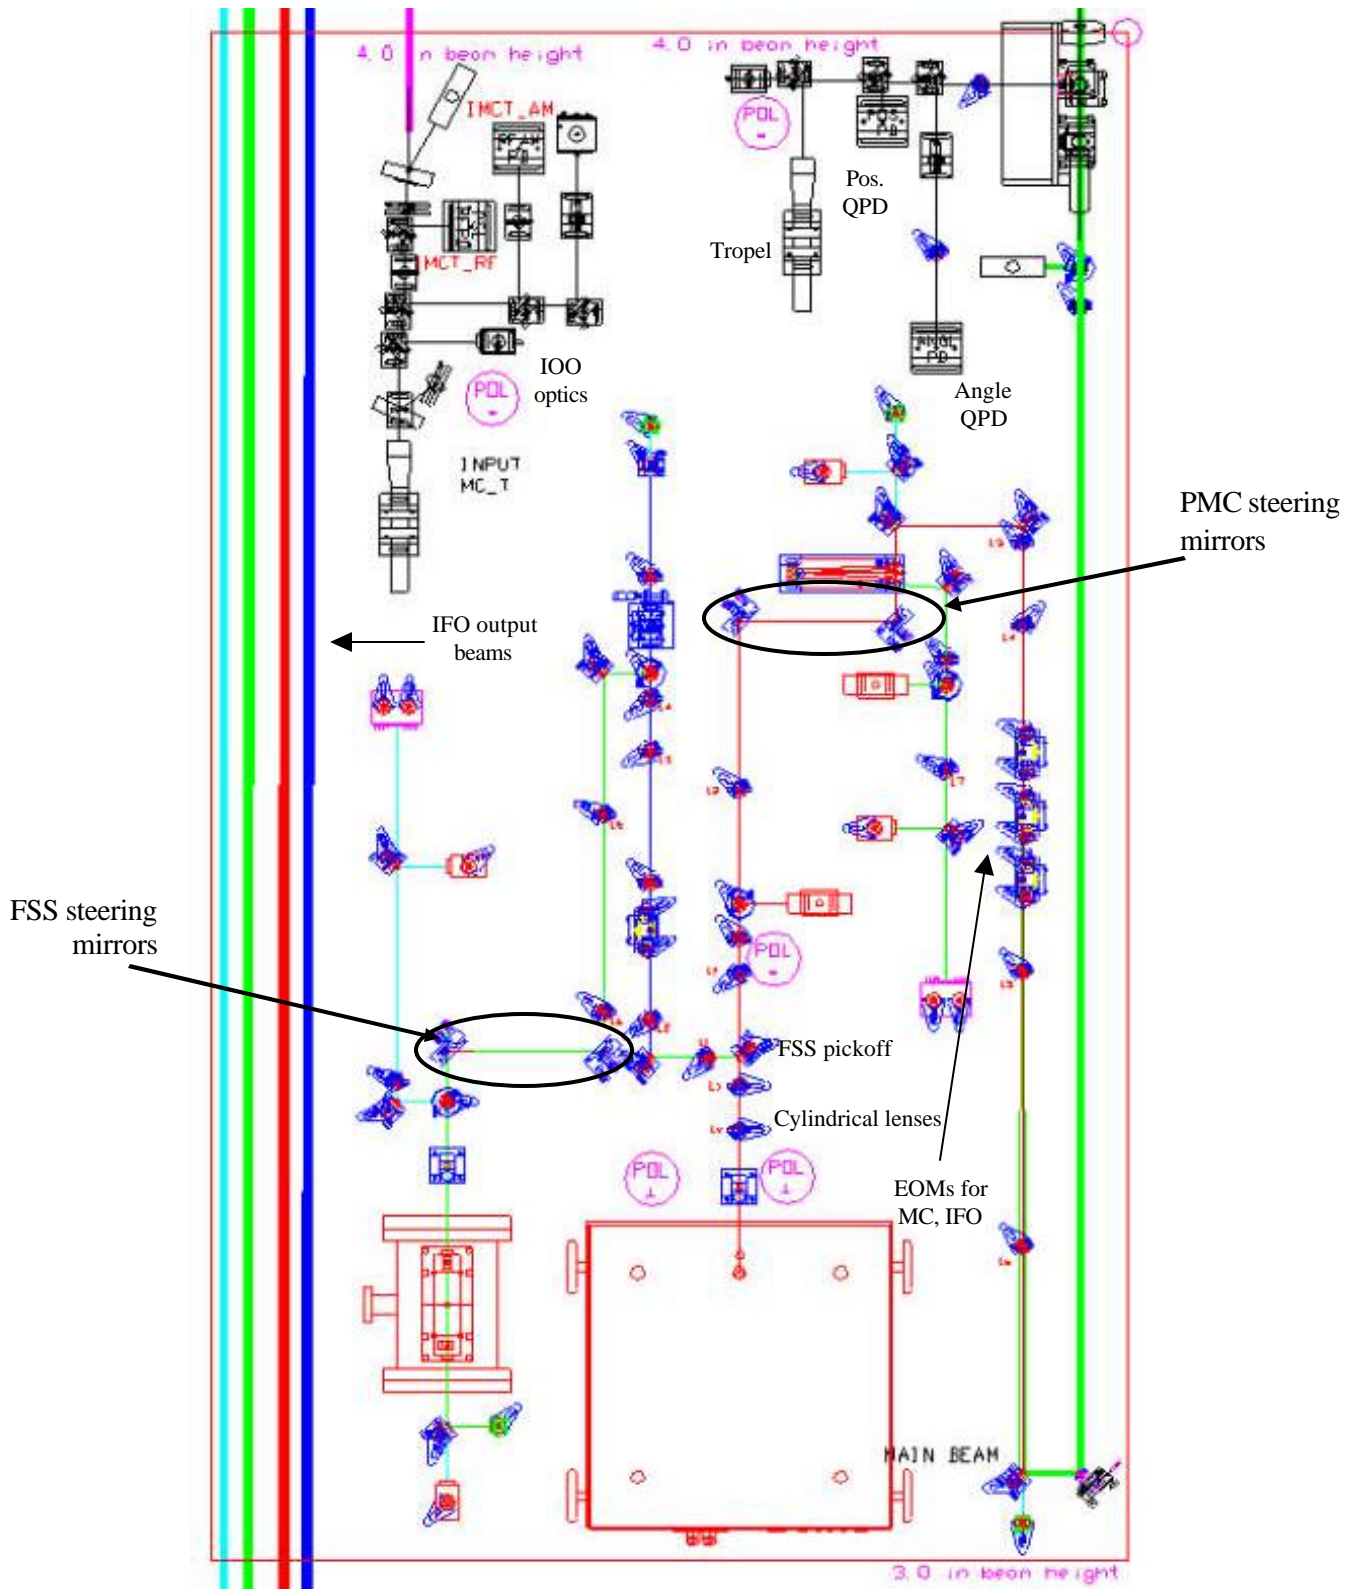

Figure 3-1: Layout of 40-meter PSL table
The 40-meter PSL is based on the same Nd:YAG Lightwave 1064 mm laser used at the main LIGO sites. The 10'x6' PSL table is located in the blue enclosure at the northwest corner of the IFO hall, with the layout shown in Figure 3-1. The 10W beam is brought to a height of three inches above the table by a periscope, and passed through a pair of cylindrical lenses to correct astigmatism. A pickoff mirror then redirects 70mW of beam to the frequency stabilization path. Pairs of mode-matching lenses are used to focus the beam into the major optical elements in each path.
The low-power beam (left half of Figure 3-1) is sent through a Pockels cell where 21.5 MHz sidebands are applied, then makes a double pass through an acousto-optic modulator (AOM) for a 160 MHz frequency shift. The beam then passes through another periscope and is locked to a suspended fixed-length reference cavity. The reflected light is read out by a tuned RF photodiode and sent to a mixer in the Frequency Stabilization Servo. The laser frequency is kept locked to the reference cavity through three actuators: a heater on the master oscillator crystal (slow), a PZT on the crystal (fast), and a phase-correcting Pockels cell downstream of the NPRO (very fast).
1. Use the FSS steering mirrors (circled in Figure 3-1) to center the low-power beam through the iris in front of the reference cavity.